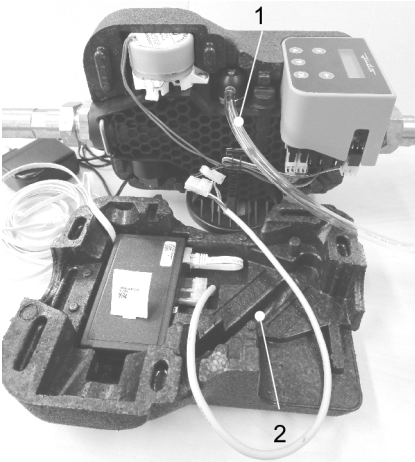

Fig. 8: Connect cable and lay it under the module
5. Insert the connectivity module into the recess of the front insulation shell so that the LAN cable runs under the connectivity module (see Figure 8).
8. Fit the bleeding hose into the guide duct of the front insulation shell (siehe Figure 8) and join both shells without the use of force.